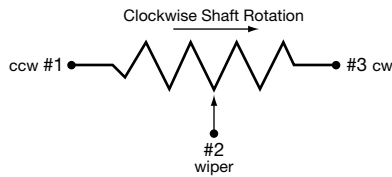

Figure 1
**1. Terminal Arrangement.** When using trimmer potentiometers in circuit designs, be aware of the terminal arrangement, and in which rotational direction the shaft or rotor is turned to increase or decrease the resistance. As shown in *Figure 1*, turning the shaft or rotor clockwise will increase the resistance between the #1 and #2 terminals.